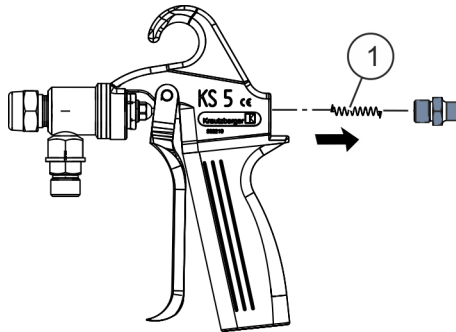

Fig. 7: Remove spring
2.  Remove the spring (Fig. 7/1).